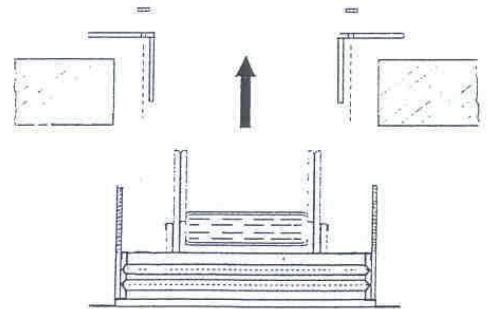

Fig. 2
3. Insert the ladder in the hole and fix it using brackets and nuts provided (fig. 2).